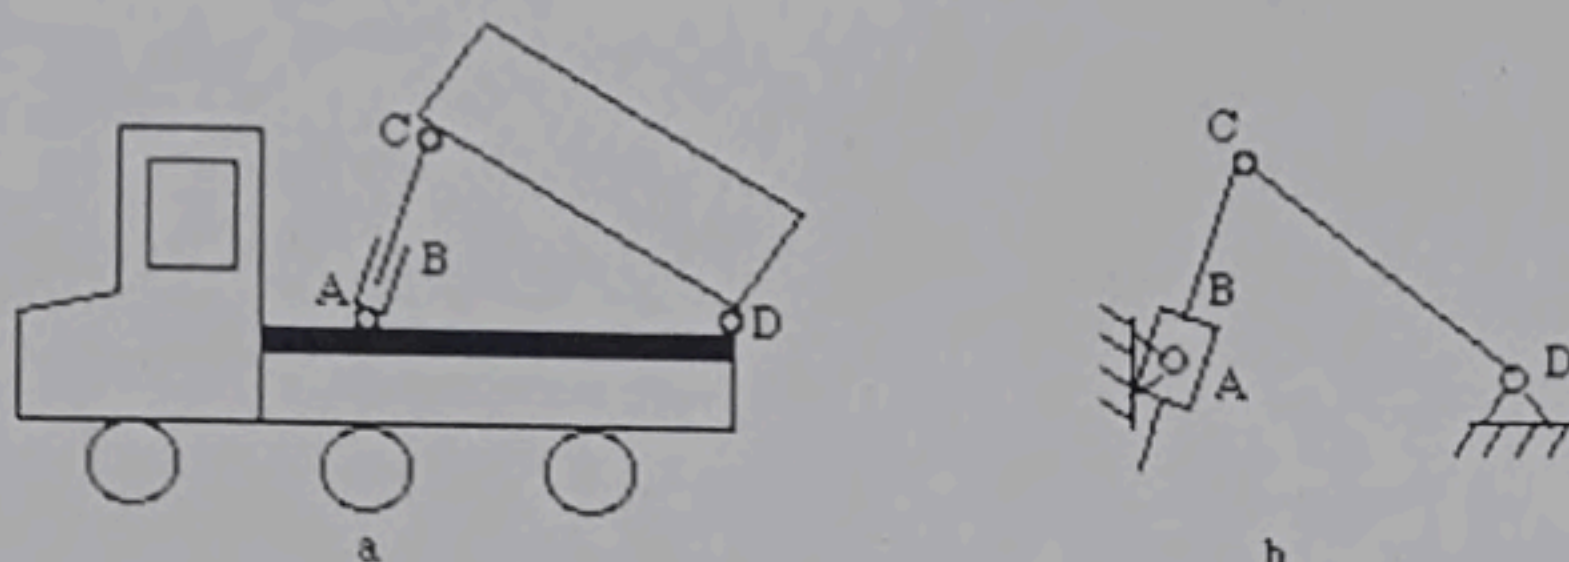

Fig.2
b) Determine the mobility of the mechanism shown in Figure 2 b. Figure 2a is an application (dump truck) of the mechanism. (5 Marks)